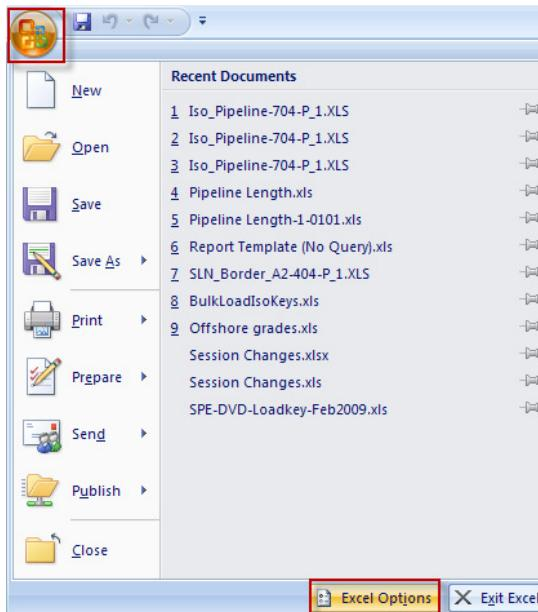

Figure 2: Accessing Excel Options in Excel 2007
1. Click the Office Button in the top left corner of the Excel application. In the resulting form, click Excel Options as shown in Figure 2